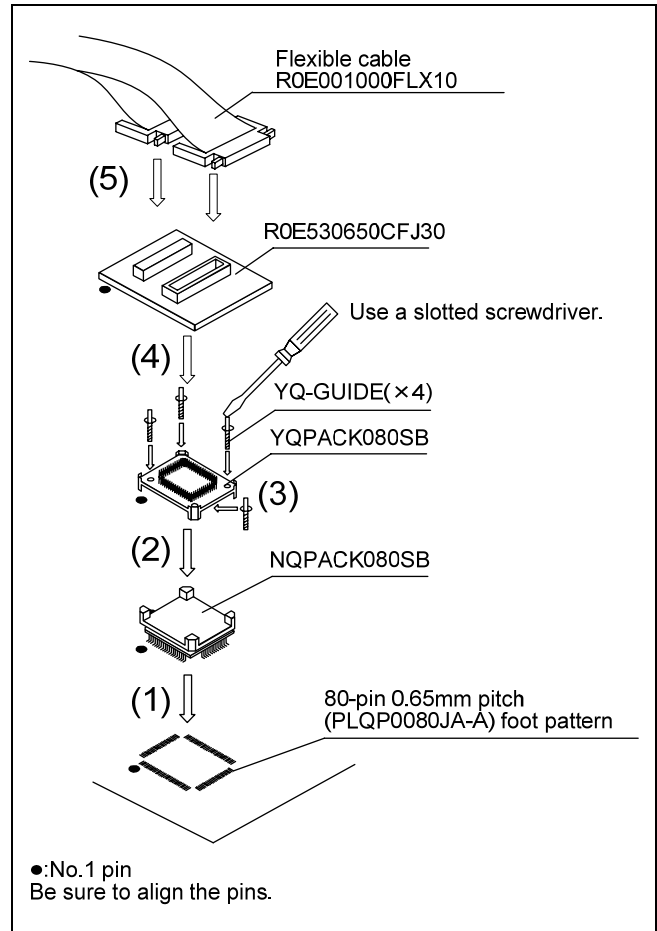

Figure 3 Connection procedure of the R0E530650CFJ30
5. Connection Procedure (See Figure 3)